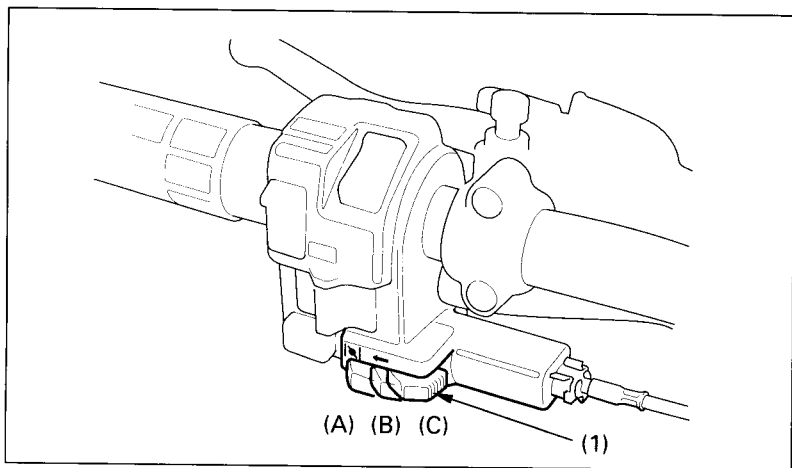

Fig. 2-7 (1) Choke lever
The choke lever (Fig. 2-7) is next to the starter button. The choke has three positions: fully ON (A), halfway position (B), and fully OFF (C).
(2) Right side cover
3. If the engine is cold, move the choke lever left to the full choke position (see Fig. 2-7).